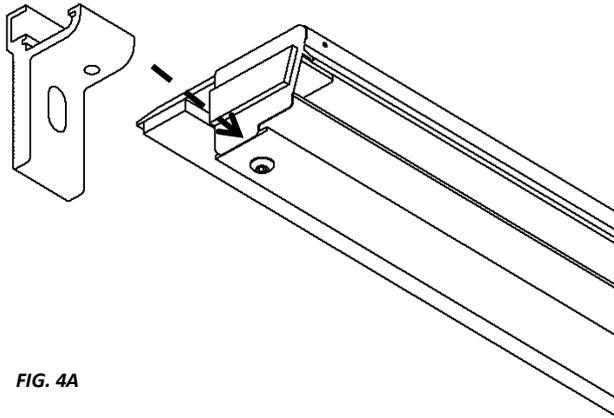
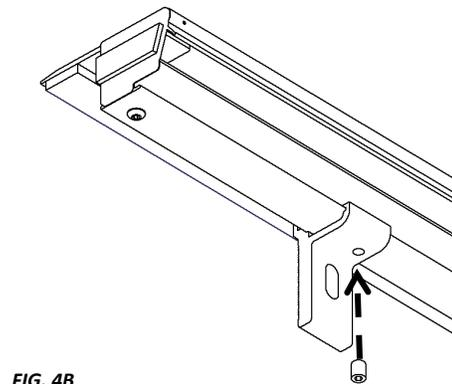
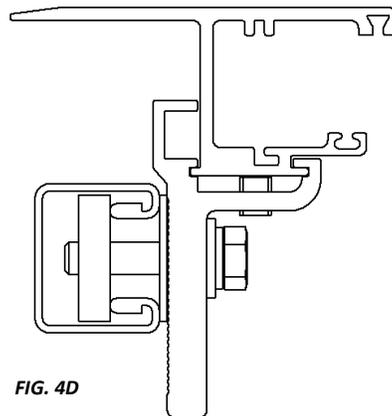

FIG. 4A
FIG. 4B
FIG. 4D
Secure the rails to the truck bed by installing two clamp assemblies per rail. Slide the Clamp Grip onto the Rail at the end of the rail and slide it  $\frac{1}{4}$  inches. Next install the set screw to lock the Clamp grip to the rail with a  $\frac{1}{8}$ " Allen Wrench (FIG 4B). Assemble the rest of the clamp parts as shown (Fig 4D). Before tightening the rail clamps, set the Rail End Caps about  $\frac{1}{16}$ " from the tailgate. This space will allow for overstroke when closing the tailgate.
Finally, check for proper spacing by measuring between the rails at the canister and the tailgate end of the rails (Fig 4A). The measurement should be equal to or less than those in Fig 4B. The Rail Brackets and Shims have been pre-installed to achieve the proper Between the Rail dimensions (BR) when placed on an average factory truck bed. However, not all truck beds are average dimensionally and some have optional plastic caps or over the rail spray-in bedliners